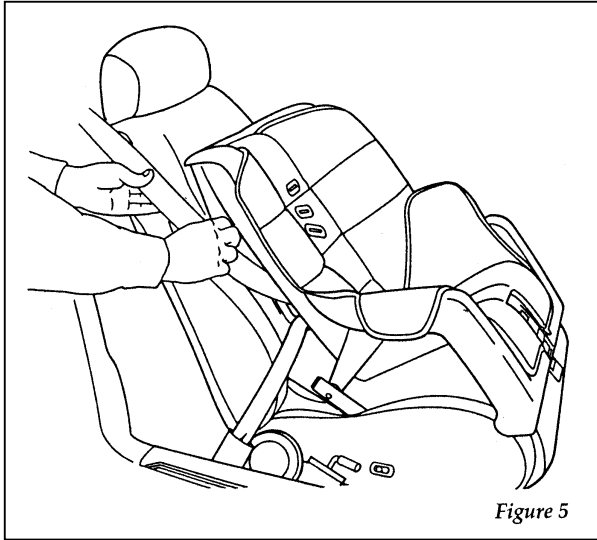

Figure 5
5. Allow the belt to retract. Pull up on the shoulder webbing. A clicking sound will be heard as the belt retracts. This indicates the retractor is in the automatic locking mode. Push down on the child seat while you pull up on the belt to remove any slack in the belt. Figures 5 and 6.